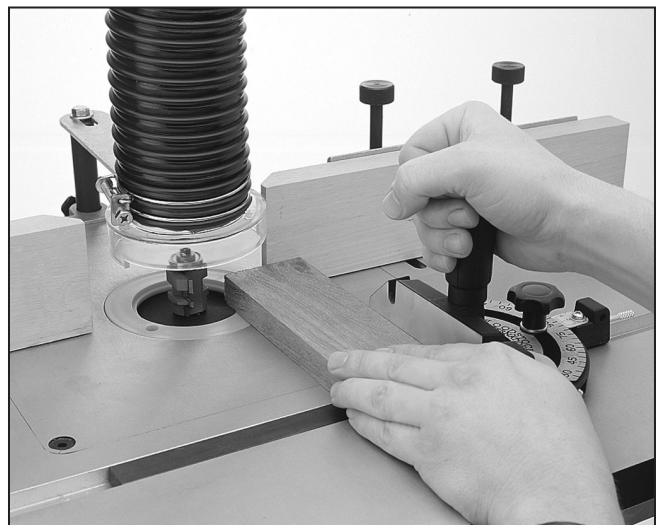

Figure 23. Using the miter gauge.
Step 3 - Determine the depth of cut and position the workpiece against the miter gauge. Firmly hold the workpiece against the miter gauge body and slide the miter gauge and workpiece past the router bit. **Figure 23.**